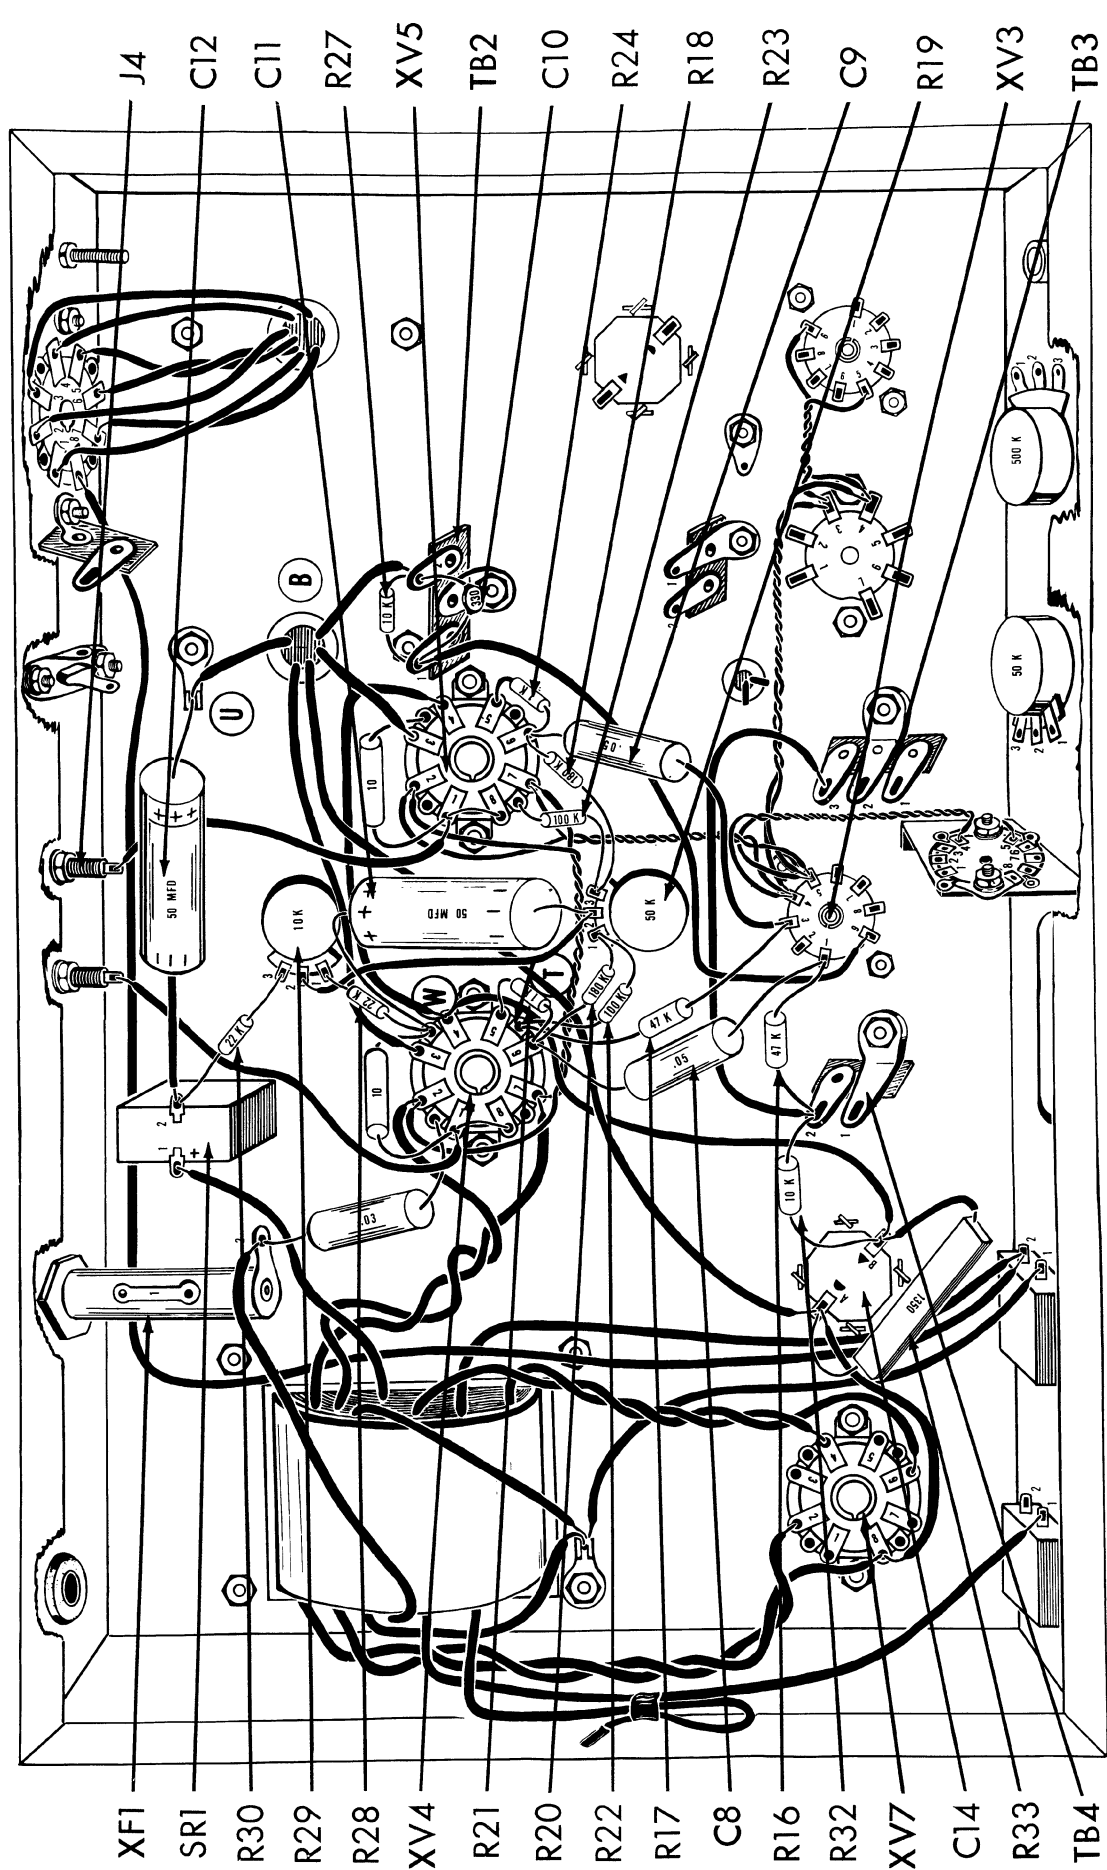

Fig. 4
1. () Fig. 4. Connect a 4 1/2" piece of red wire from XV4-4 (C) to XV5-4 (S1).
2. () Fig. 4. Connect a 6" piece of red wire from XV4-4 (S2) to C14-B (C).
3. () Fig. 4. From hole "B", connect the black lead to ground lug "U" (C), the green lead to TB2-2 (C), the blue lead to XV5-3 (S1), the brown lead to XV4-3 (S1) and the red lead to C14-A (C).
4. () Fig. 4. Connect a 4" piece of black wire from J4 (S1) to XV5-1 (C).
5. () Fig. 4. On a 50 mfd, 150V electrolytic capacitor, C12, cut both leads to 1 1/2". Cover the negative (-) lead with a 1 1/4" piece of spaghetti and connect to SR1-2 (C). Connect the positive (+) lead to ground lug "U" (S2).
6. () Fig. 4. Connect a 3 1/2" piece of yellow wire from R29-2 (S) to R19-2 (C).
7. () Fig. 4. On two 22K (red, red, orange, silver) resistors, R28 and R30, cut all leads to 1/2". Connect R28 from R29-1 (S1) to ground lug "W" (C). Connect R30 from R29-3 (S1) to SR1-2 (S2).
8. () Fig. 4. On a 50 mfd, 150V electrolytic capacitor, C11, cut the positive (+) lead to 1 1/2". Cover this lead with a 1 1/4" piece of spaghetti and connect to ground lug "W" (S3). Cut the negative (-) lead to 3/4" and connect to R19-2 (S2).
9. () Fig. 4. Cut all leads on two 100K (brown, black, yellow, silver) resistors, R22 and R23, to 1/2". Connect R22 from R19-1 (C) to ground lug "T" (C) on XV4. Connect R23 from R19-3 (C) to ground lug "S" (S1) on XV5.
10. () Fig. 4. Connect a 4" piece of red wire from TB3-3 (C) to TB4-2 (C).
11. () Fig. 4. Connect a 7" piece of brown wire from TB2-1 (C) to XV3-9 (C).
12. () Fig. 4. Cut both leads on a 47K (yellow, violet, orange, silver) 1 watt resistor, R17, to 1". Cover one lead with a 3/4" piece of spaghetti and connect to XV3-3 (C). Connect the other lead to ground lug "T" (S2).
13. () Fig. 4. Cut all leads on two 180K (brown, grey, yellow, gold) resistors, R18 and R20, to 3/4". Connect R18 from XV5-6 (C) to R19-3 (S2). Connect R20 from R19-1 (S2) to XV4-6 (C).
14. () Fig. 4. Cut all leads on two 1K (brown, black, red, silver) resistors, R21 and R24, to 1/2". Connect R21 from XV4-6 (C) to XV4-5 (S1). Connect R24 from XV5-6 (C) to XV5-5 (S1).
15. () Fig. 4. Connect a 1/2" piece of bare wire from XV4-1 (S3) to XV4-8 (S1).
16. () Fig. 4. Connect a 1/2" piece of bare wire from XV5-1 (S3) to XV5-8 (S1).
17. () Fig. 4. Cut both leads on a 10K $\pm$ 5% (brown, black, orange, gold) resistor, R27, to 1/2". Connect from TB2-1 (C) to TB2-2 (C).
18. () Fig. 4. Cut both leads on a 330 mmf disc capacitor, C10, to 3/4". Connect from TB2-1 (S3) to TB2-2 (S3).
19. () Fig. 4. Cut one lead on each of two .05 mfd (green, black, orange, white, yellow) capacitors, C8 and C9, to 1 1/2", and cover each lead with a 1 1/4" piece of spaghetti. Cut the remaining lead on each of these capacitors to 3/4". Connect the shorter lead on C8 to XV4-6 (S3) and the longer lead to XV3-1 (C). Connect the shorter lead on C9 to XV5-6 (S3) and the longer lead to XV3-3 (S2).
20. () Fig. 4. Connect a 5" piece of red wire from XV7-8 (S2) to C14-A (C).
21. () Fig. 4. Cut both leads on a 1350 Ω wire wound resistors, R33, to 1 1/4". Cover both leads with a 1" piece of spaghetti. Connect from C14-A (S3) to C14-B (C).
22. () Fig. 4. Cut both leads on a 10K (brown, black, orange, silver) 1 watt resistor, R32, to 3/4". Connect from C14-B (S3) to TB4-2 (C).
23. () Fig. 4. Cut both leads on a 47K (yellow, violet, orange, silver) 1 watt resistor, R16, to 3/4". Connect from TB4-2 (S3) to XV3-1 (S2).